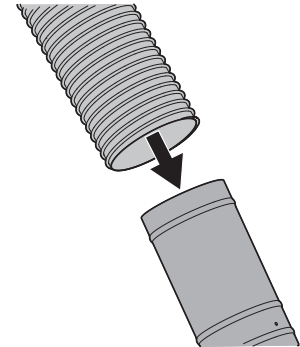

Figure 27
2. With the ability now to wiggle the discharge chute tube back and forth, slide it over the chute elbow mounted on the cutting deck, as shown in Figure 27.